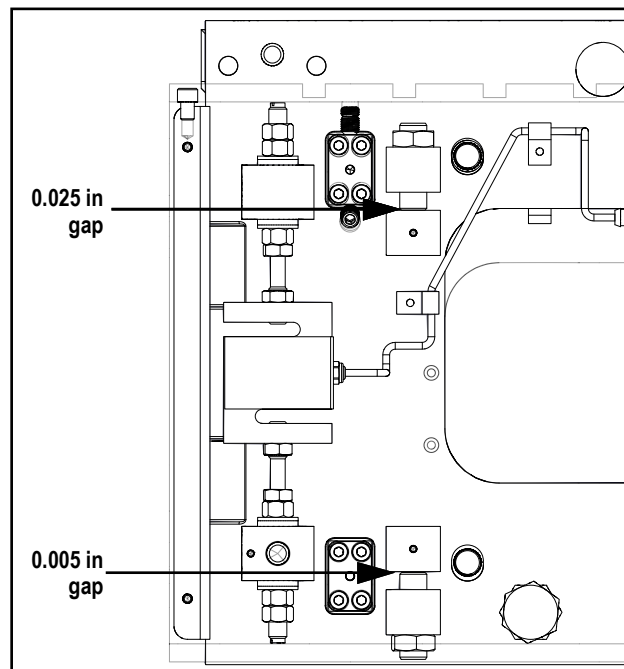

Figure 6-4. Overload Stop Clearance
5. Ensure there is a 0.025 in gap between each upper screw and block (see Figure 6-4). If necessary, loosen the jam nuts and adjust the upper screws to meet this clearance.
7. Ensure there is a 0.005 in gap between each lower screw and block (see Figure 6-4). If necessary, loosen the jam nuts and adjust the lower screws to meet this clearance.